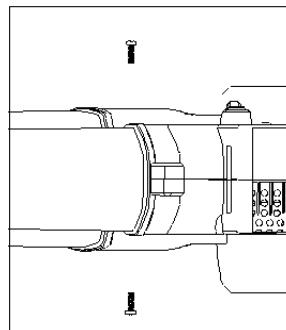

Fig. 6
- 5.** Pull out two screws that in the manual bag from package, the user need to assemble fasten the screw (ST4 x 14) until they connect well. Refer to Fig. 6.